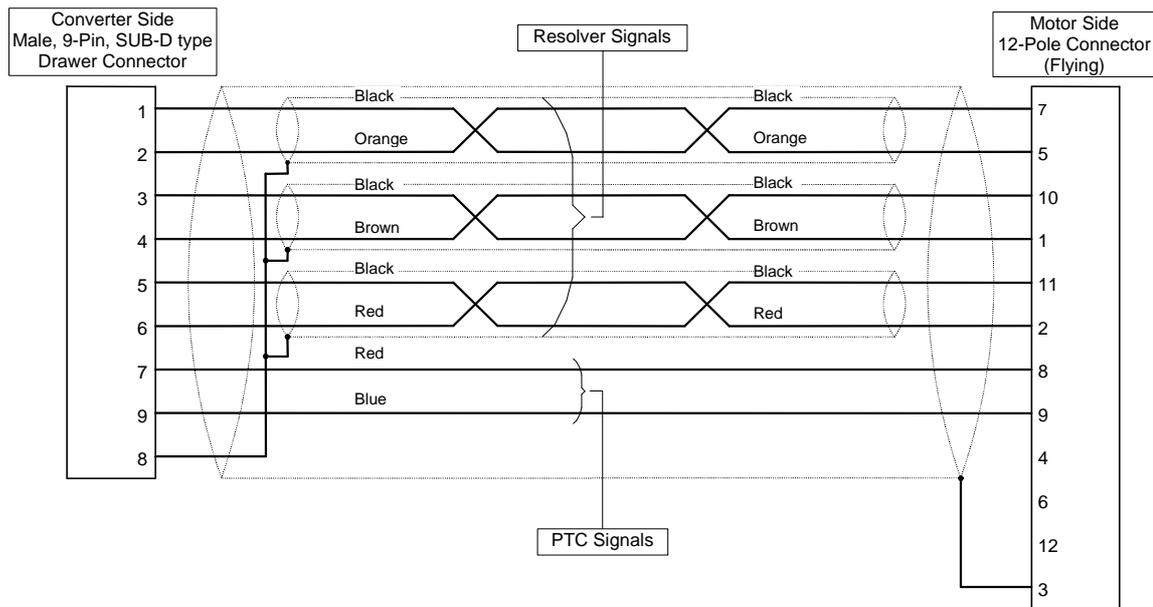

Fig. 3-9: Resolver cable connection diagram
- only ABB Servomotors S.r.l. approved cable type can be used, code 16080125; connections must be those described in Fig. 3-9;